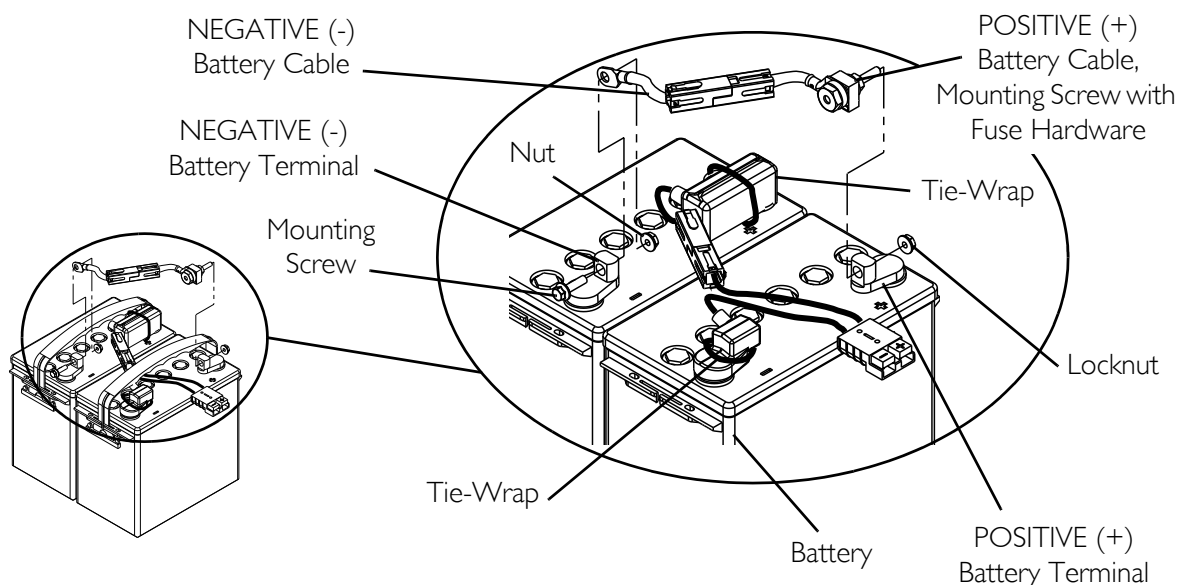

FIGURE 11.3 Connecting/Disconnecting the Battery Wiring Harness
When connecting the battery cables to the battery(ies), the battery cable(s) **MUST** be connected to the battery terminal(s)/post(s) as shown in FIGURE 11.3 otherwise damage to the battery may result.
NOTE: For this procedure, refer to FIGURE 11.3 on page 63.
3. Using the mounting screws and nuts, secure the NEGATIVE (-) BLACK battery cable to NEGATIVE (-) battery terminal/post as shown in FIGURE 11.3.
4. Using the mounting screws and nuts, secure the POSITIVE (+) RED battery cable to POSITIVE (+) battery terminal/post as shown in FIGURE 11.3.
8. Using new tie-wraps, secure the terminal covers to the battery terminals as shown in FIGURE 11.3.
4. Remove the mounting screws and nuts that secure the POSITIVE (+) RED battery cable to the POSITIVE (+) battery terminal/post as shown in FIGURE 11.3.
5. Remove the mounting screws and nuts that secure the NEGATIVE (-) BLACK battery cable to the NEGATIVE (-) battery terminal/post as shown in FIGURE 11.3.